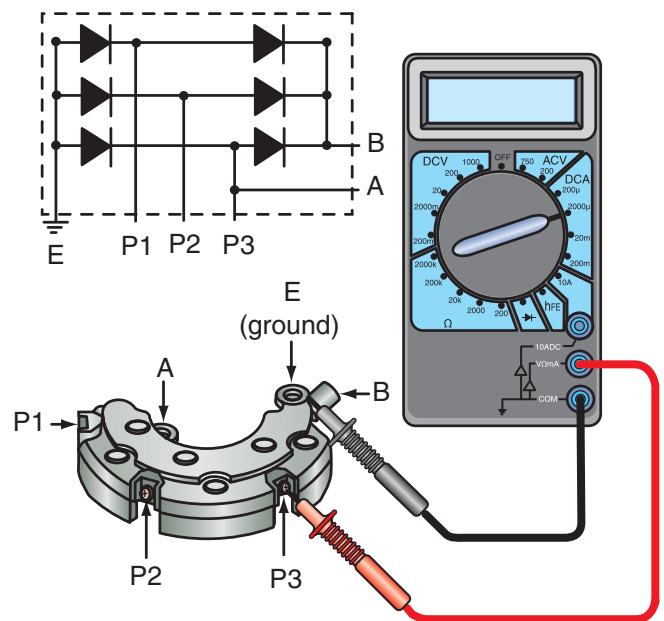

Figure 14-50 Testing a six-diode rectifier requires 12 individual tests.
To test the three-phase six-diode rectifier shown in Figure 14-50, connect the black probe of the ohmmeter to the ground side of the rectifier (E) and the red probe to P1, P2, and P3. Record your measurements. Then swap the meter leads and take the three resistance readings again. You have now measured the ground side of the rectifier.